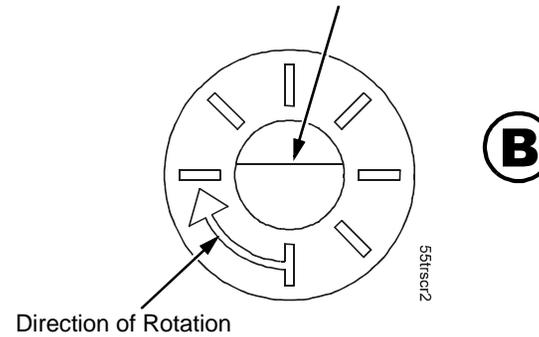

Figure 44. Tractor Belt Tension Adjustment
3. Carefully note the initial position of the adjustment screws. (See Figure 44.)
4. **Newer tractors:** On the inner side of the left tractor, use a Torx T-10 driver to rotate the adjustment screw clockwise one detent to increase tension. On the inner side of the right tractor, use a Torx T-10 driver to rotate the adjustment screw counter-clockwise one detent to increase tension. (See Figure 44.)
Early tractors: On the inner side of each tractor, use a flat tip screwdriver to rotate the adjustment screw 270 degrees in the direction of rotation (shown by the outside arrow), until the arrow in the adjustment screw points to the tail of the outside (direction) arrow. (See Figure 44.)